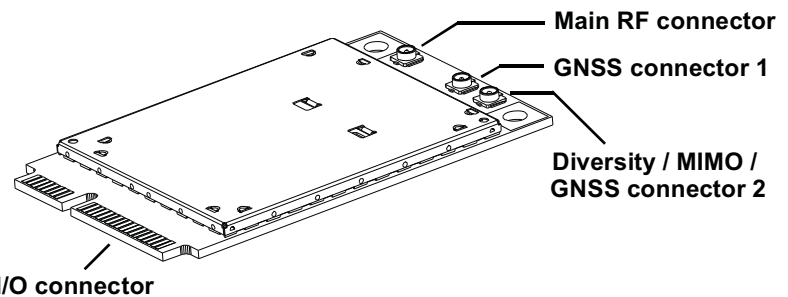

Figure 4-1: Module connectors
- Use Hirose U.FL connectors (3 mm x 3 mm, low profile; model U.FL #CL331-0471-0-10) to attach antennas to connection points on the module, as shown in Figure 4-1 on page 37.
- Connect to system ground using the two mounting holes at the top of the module (shown in Figure 4-1 on page 37).